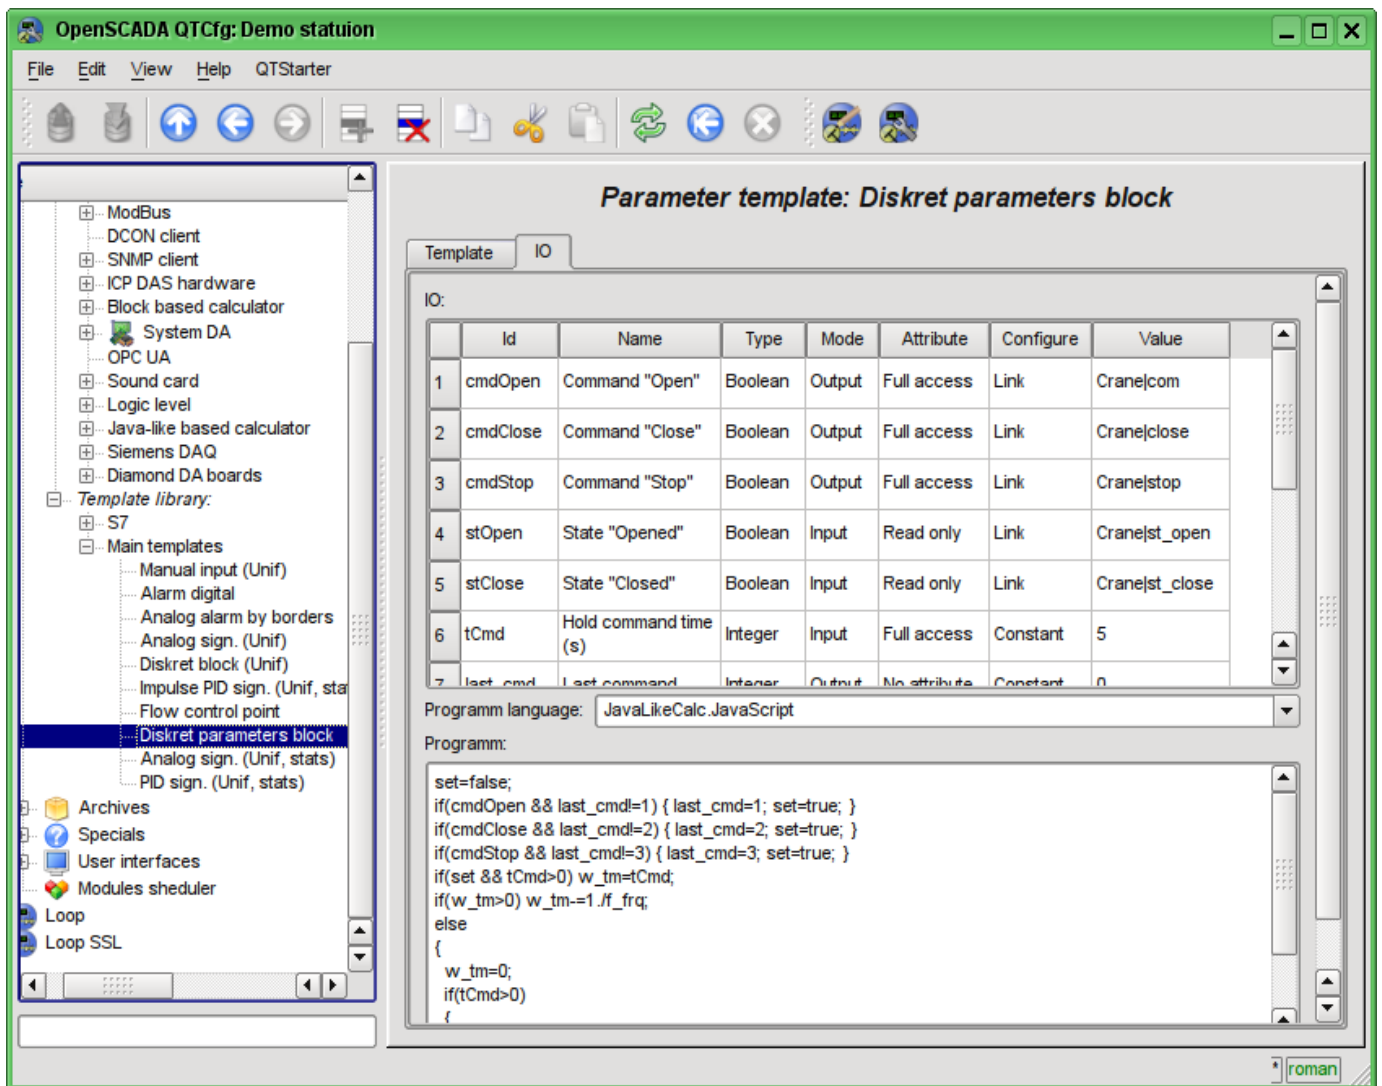

Fig. 4.5g. The configuration tab of the attributes and template's program of subsystem "Data acquisition".
The tab "IO" (Fig.4.5g) contains the configuration of attributes (IO) of templates and the program of template on the one of languages of the user programming of OpenSCADA, for example, DAQ.JavaLikeCalc.JavaScript. To the table of attributes of template user can, through the context menu, add, insert, delete, move up or down the record of attribute, as well as edit the attribute's fields: